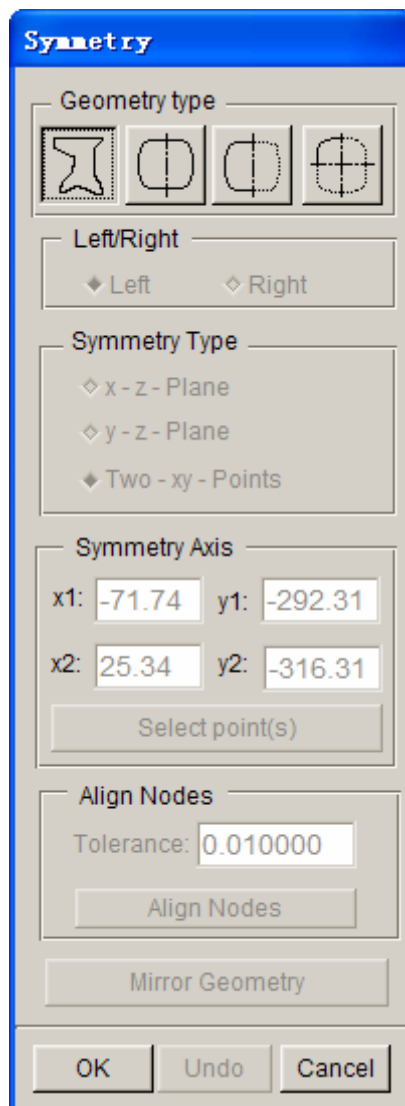

Figure 16 Symmetry dialog box
4. The **Symmetry** dialog box illustrated in Figure 16 is displayed.